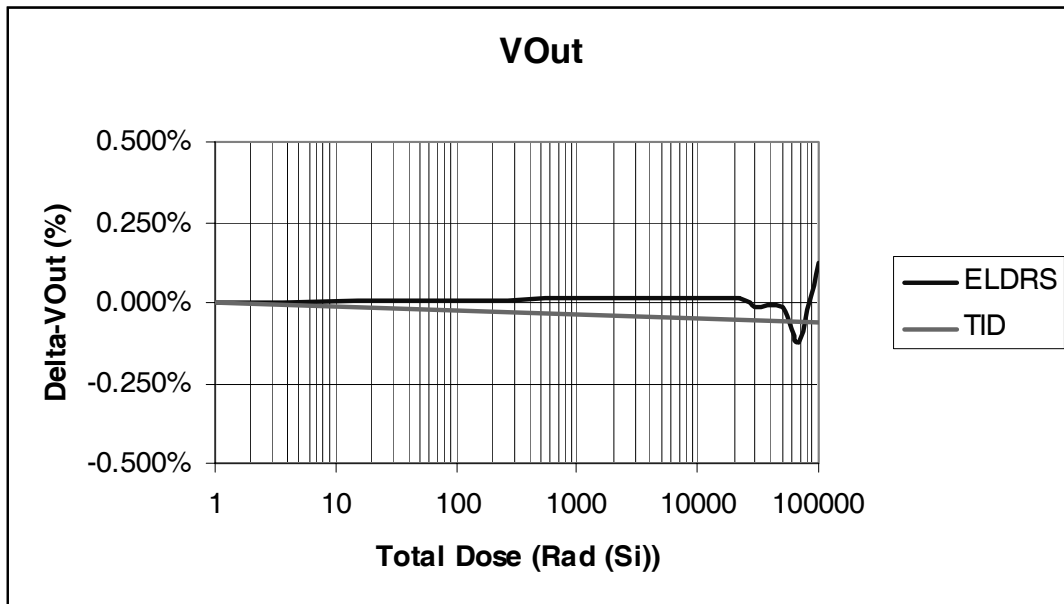

Fig. 5. Change in Output Voltage vs. Total Ionizing Dose Radiation Exposure at Both High and Low Dose Rates
① Tested to 500Krad (Si).
② See Fig. 5.